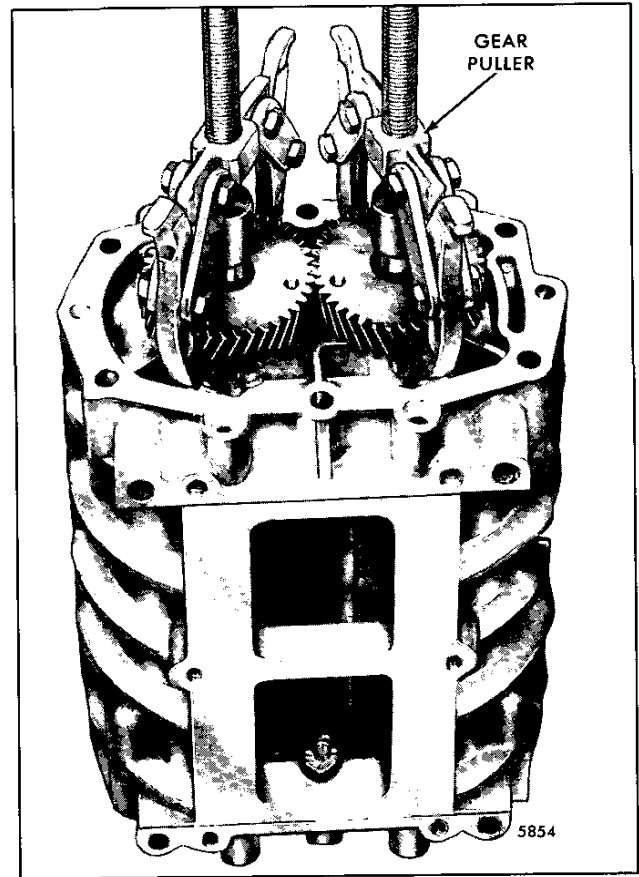

Fig. 5 - Removing Blower Rotor Gears
- a. With the pullers in place under the gears (Fig. 5), place a brass bar, approximately 1" long and 5/8" diameter, between the point of each puller bolt and blower rotor shaft.